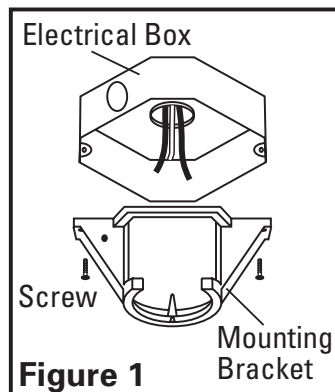

Figure 1
2. Install mounting bracket to the electrical box marked "Acceptable For Fan Support" using the screws provided with the outlet box. Insert the screws through the slotted holes in the bracket and attach to the electrical box. Tighten both screws to the electrical box (Figure 1).